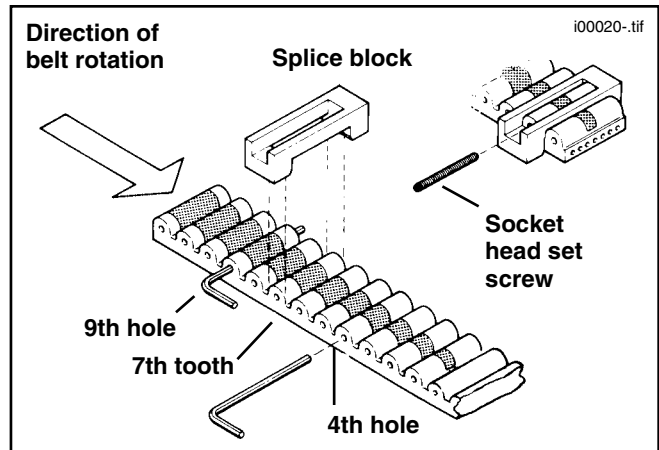

Figure 3. Belt Assembly
7. See Figure 3. Join "v" ends of the emergency belt.